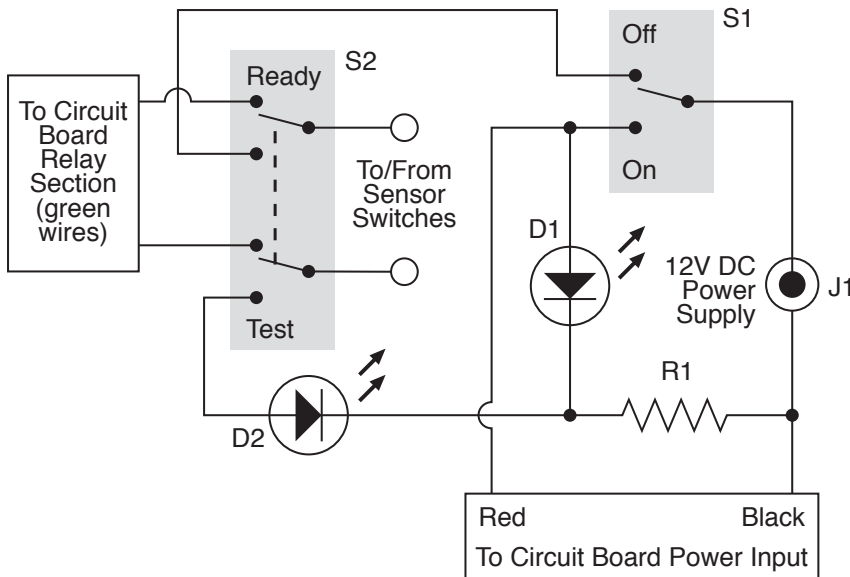

Figure 3-106. This schematic suggests a convenient way to add an on/off switch, a continuity testing feature, and a noisemaker testing feature to the alarm.
The circuit shown in Figure 3-106 incorporates all of these features. S1 is a SPDT switch; S2 is a DPDT momentary pushbutton of ON-(ON) type. The schematic shows it in its “relaxed” mode, when the button is not being pressed.